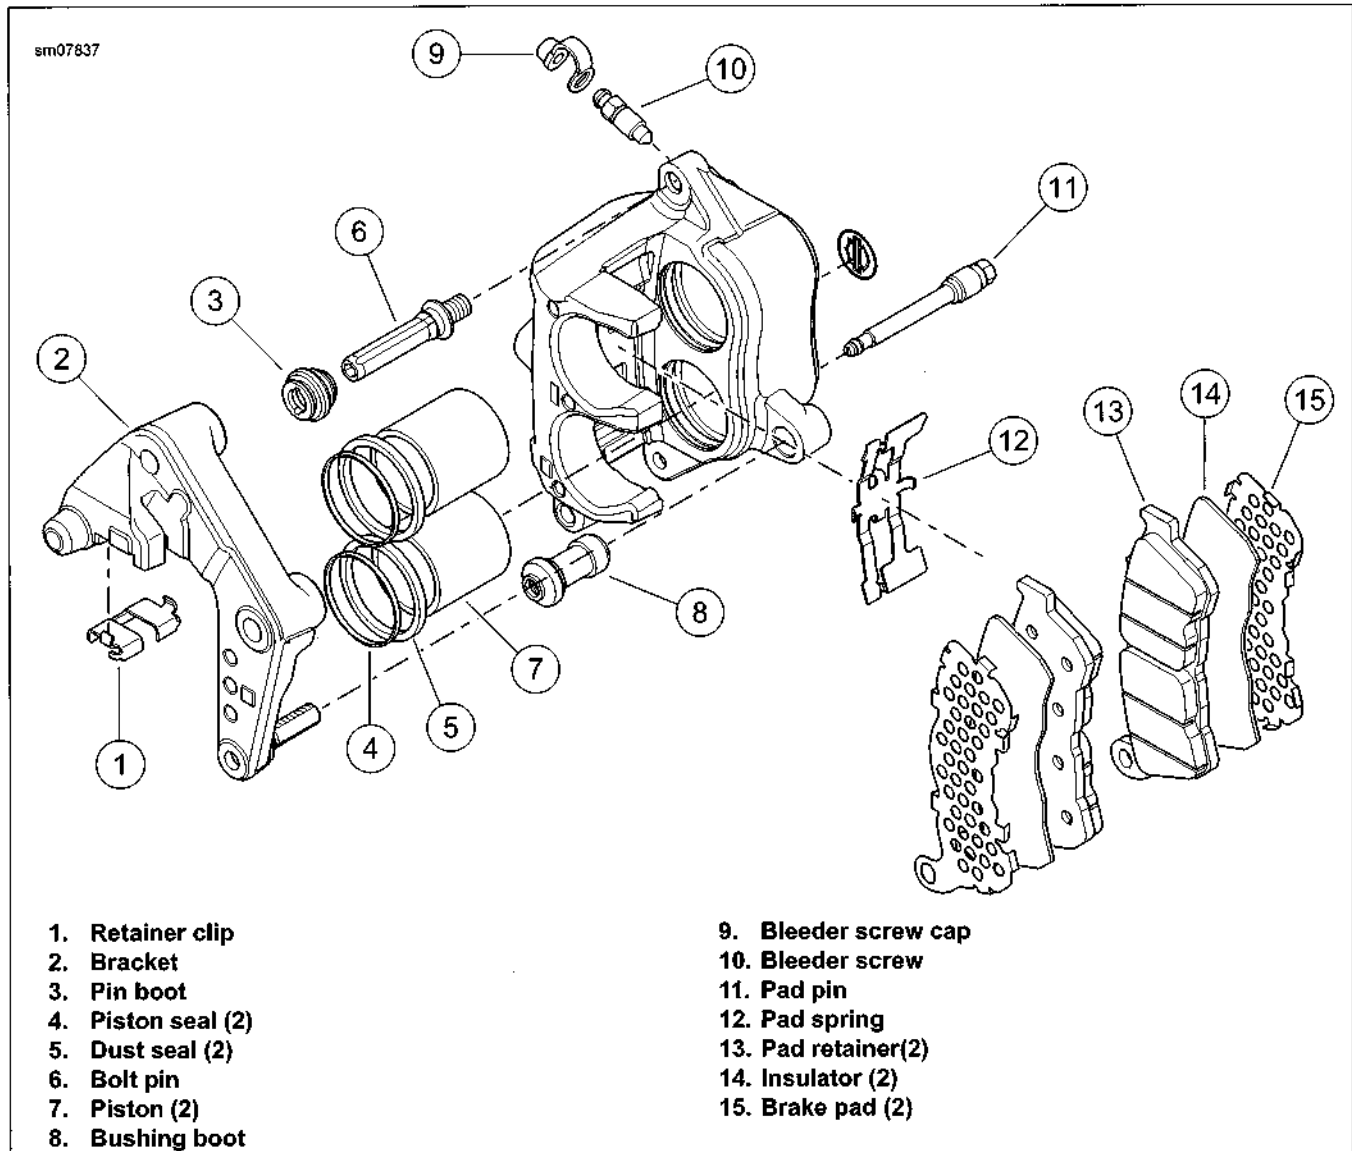
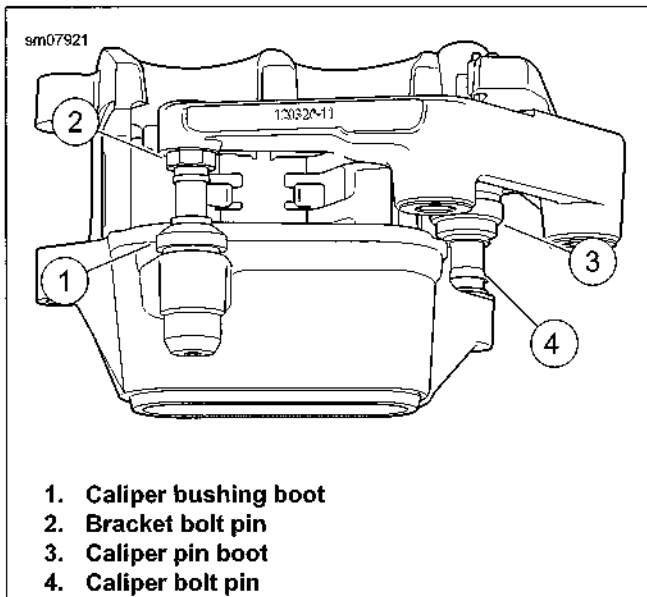

Figure 2-59. Front Brake Caliper
Figure 2-61. Caliper Pins and Boots
1. See Figure 2-59. Remove brake pad pin (11) and brake pads (13, 14, 15).
2. Slide brake caliper off mounting bracket (2).
3. Remove pad spring (12). Do not remove bleeder screw (10).
1. See Figure 2-59. Verify that the retainer clip (1) is snapped onto mounting bracket (2).
2. Apply approximately 0.4 g of G40M BRAKE GREASE inside caliper bushing boot (8) and caliper pin boot (3).
3. See Figure 2-61. Apply G40M BRAKE GREASE inside boot lip to prevent sticking between boots and bolt pins.